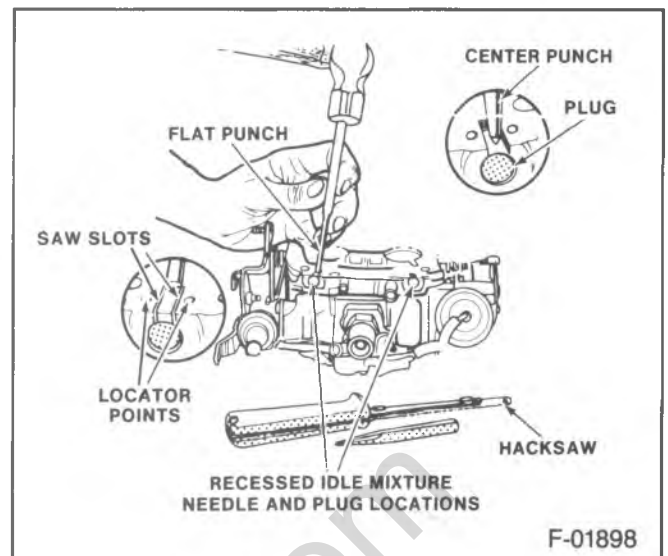

Figure 36—Removing idle Mixture Needle Plugs
In case of a major carburetor overhaul, throttle body replacement, or high idle CO (when indicated by an emissions inspection), the idle mixture may be adjusted. Adjusting the mixture by other than the following method may violate Federal and/or state laws (figures 36 through 38).
4. Remove idle mixture needle plugs (figure 36):